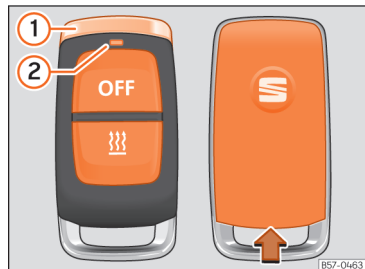

Fig. 96 Auxiliary heating: radio remote control.
When the buttons are pressed, the LED of remote control »» Fig. 96 ② gives the user a range of information:
- Secure the remote control with the chrome pin »» Fig. 96 ① vertically facing upwards.
- Insert a suitable tool, e.g. a screwdriver, into the indentation in the remote control housing, in the direction of the arrow »» Fig. 96.
- Slide the cover in the direction opposite to the arrow until it clicks into place »» Fig. 96.